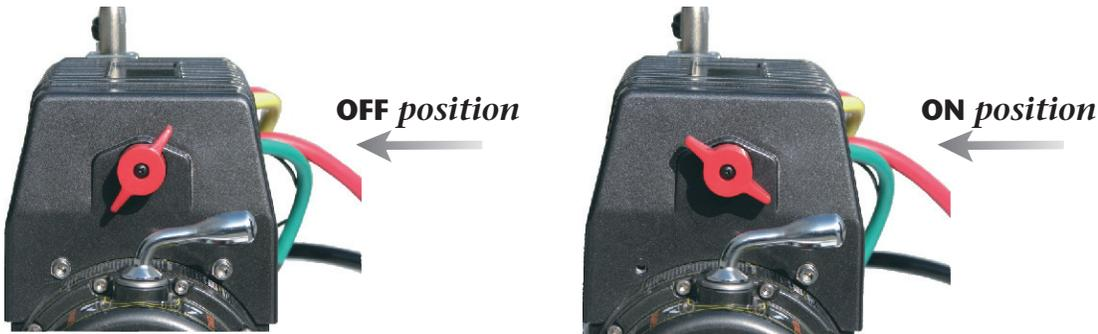

Figure 4
6. Turn the **KILL SWITCH** from the **OFF** position to the **ON** position. (see Figure 4)
If the Solenoid is stuck or the Winch motor stalls during operation Turn off the Kill switch immediately to cut off electricity to avoid burning out the motor. (see Figure 4)